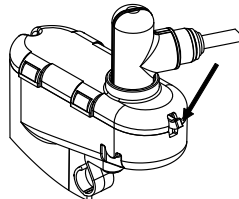

Figure 14b
- If you want to stop filling the bowl ahead the schedule, click on the button at the end of the shutoff (Fig. 14b).